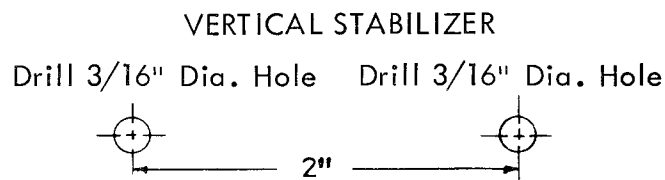

Figure 6
5. Drill the appropriate holes for the stabilizer mounting bracket as illustrated on the drilling template of figure 6.